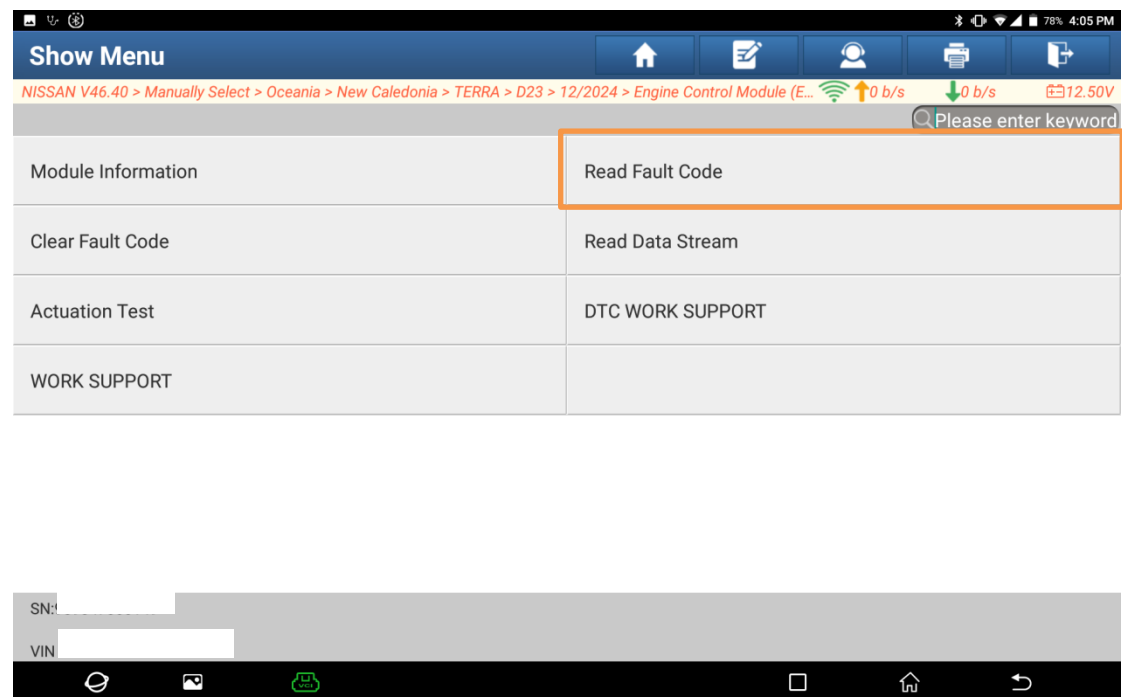
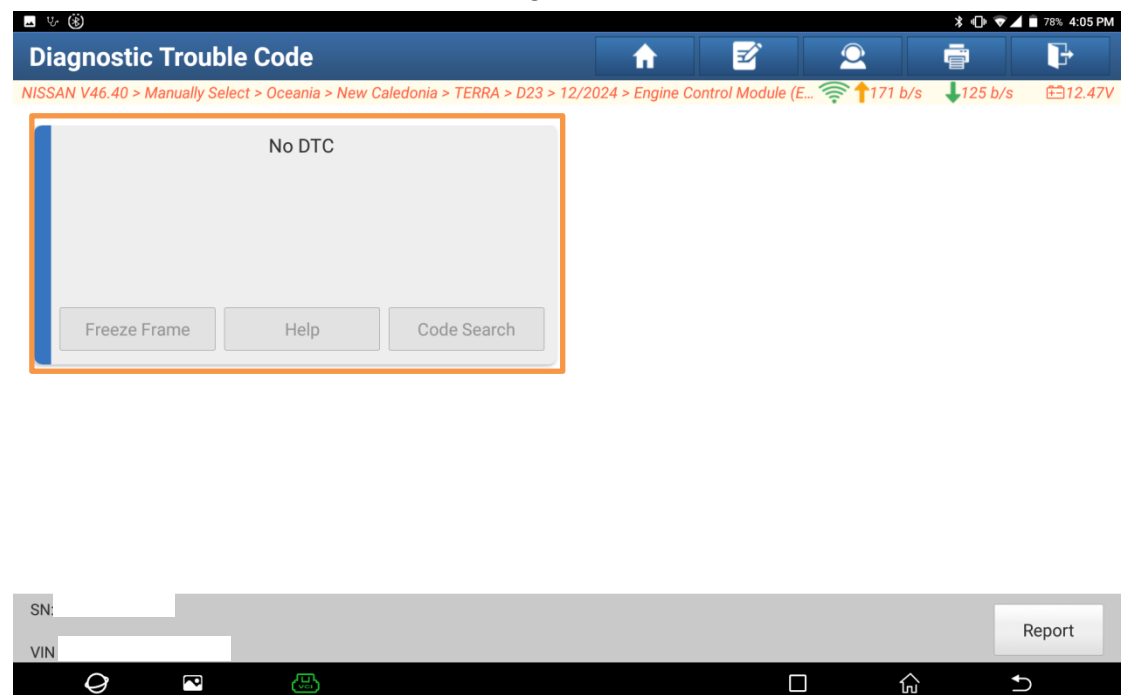

Figure 18
Figure 19
13. On the ECM menu interface, choose [Read Fault Code] (Figure 18) to read the ECM DTC information. No DTC is displayed (Figure 19), indicating that all cylinders are functioning normally. The function operations are now completed.